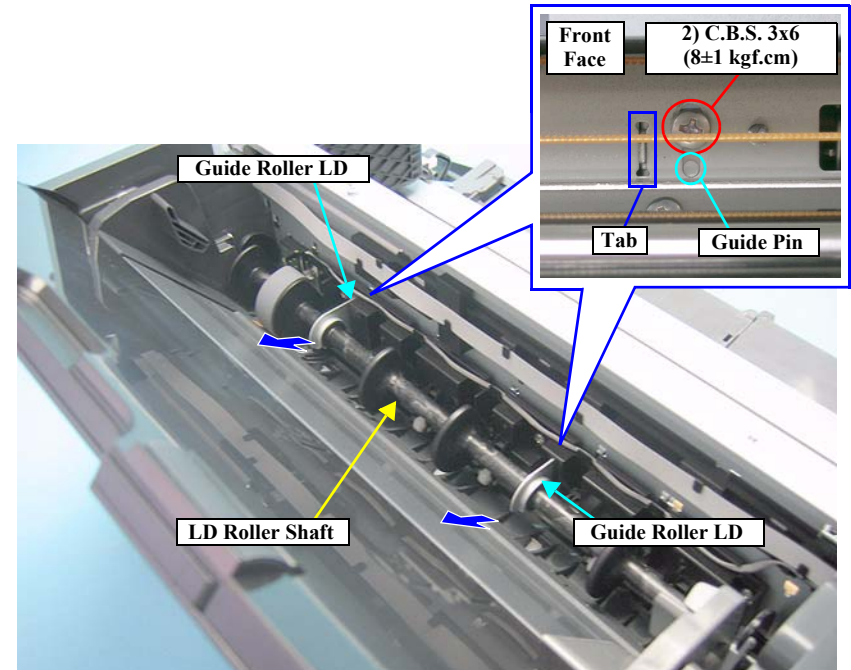

Figure 4-31. Removing the Guide Roller LD
Align the Guide Pins and tabs on the Guide Roller LDs with the positioning holes on the Main Frame. See Figure 4-31.
1. After installing the ASF Assy, loosen the two screws (2) C.B.S. 3x6) that secure the Guide Roller LD. See Figure 4-31.